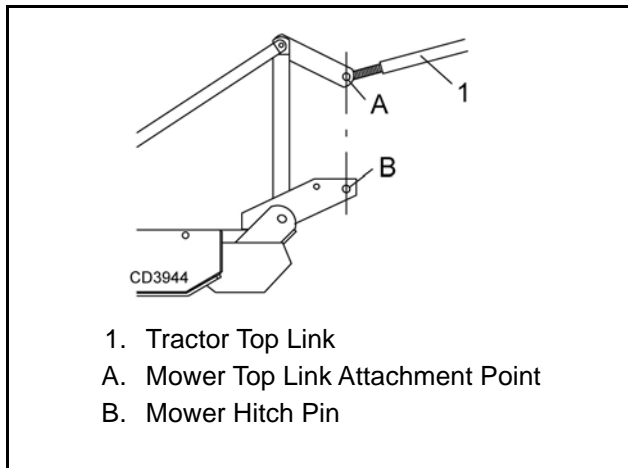

Figure 2. Attachment Points
2. Attach tractor top link (1), Figure 2, to mower top link bracket attachment point (A). Connect the driveline to the tractor PTO shaft.